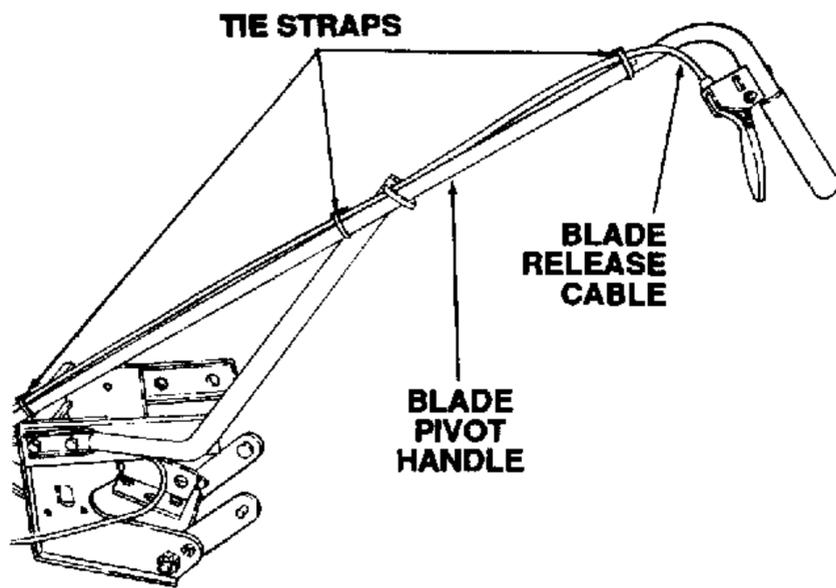

Figure 7-18. Installing Tie Straps.
7. Secure the blade release cable to the pivot handle with the three tie straps (12, Fig. 7-9) as shown in Figure 7-18. Cut excess from tie strap ends.